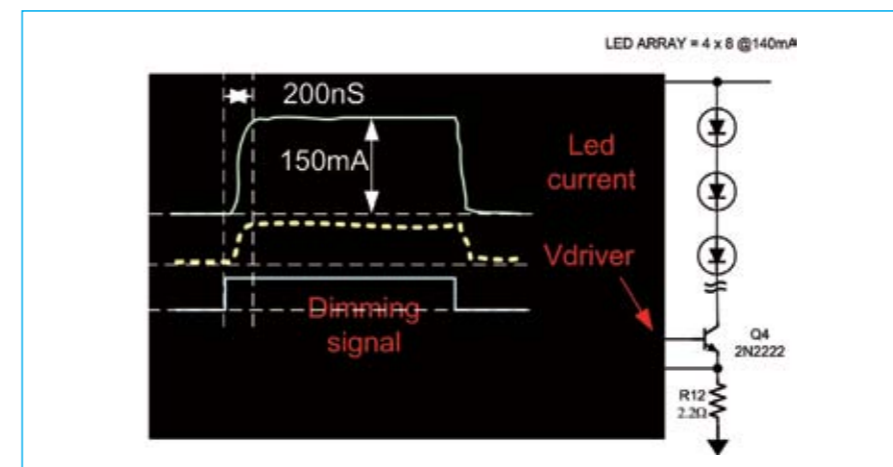

Figure 3: Dimming linearity is achieved with dedicated LED current regulator.
- The boost stage controls the LED cathode voltage ( $V_{C1-4}$  of the schematic in figure 3) in order to drive the LED strings with sufficient headroom.